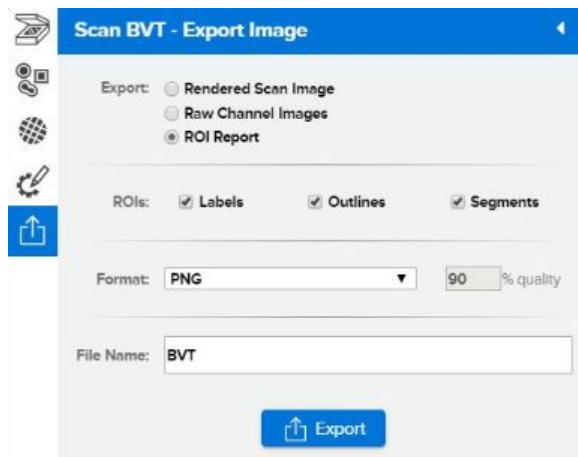

Figure 45: Export image menu - rendered scan
2. The default view is **Rendered Scan Image** (see Figure 45); choose this for a full-color publication-quality image.